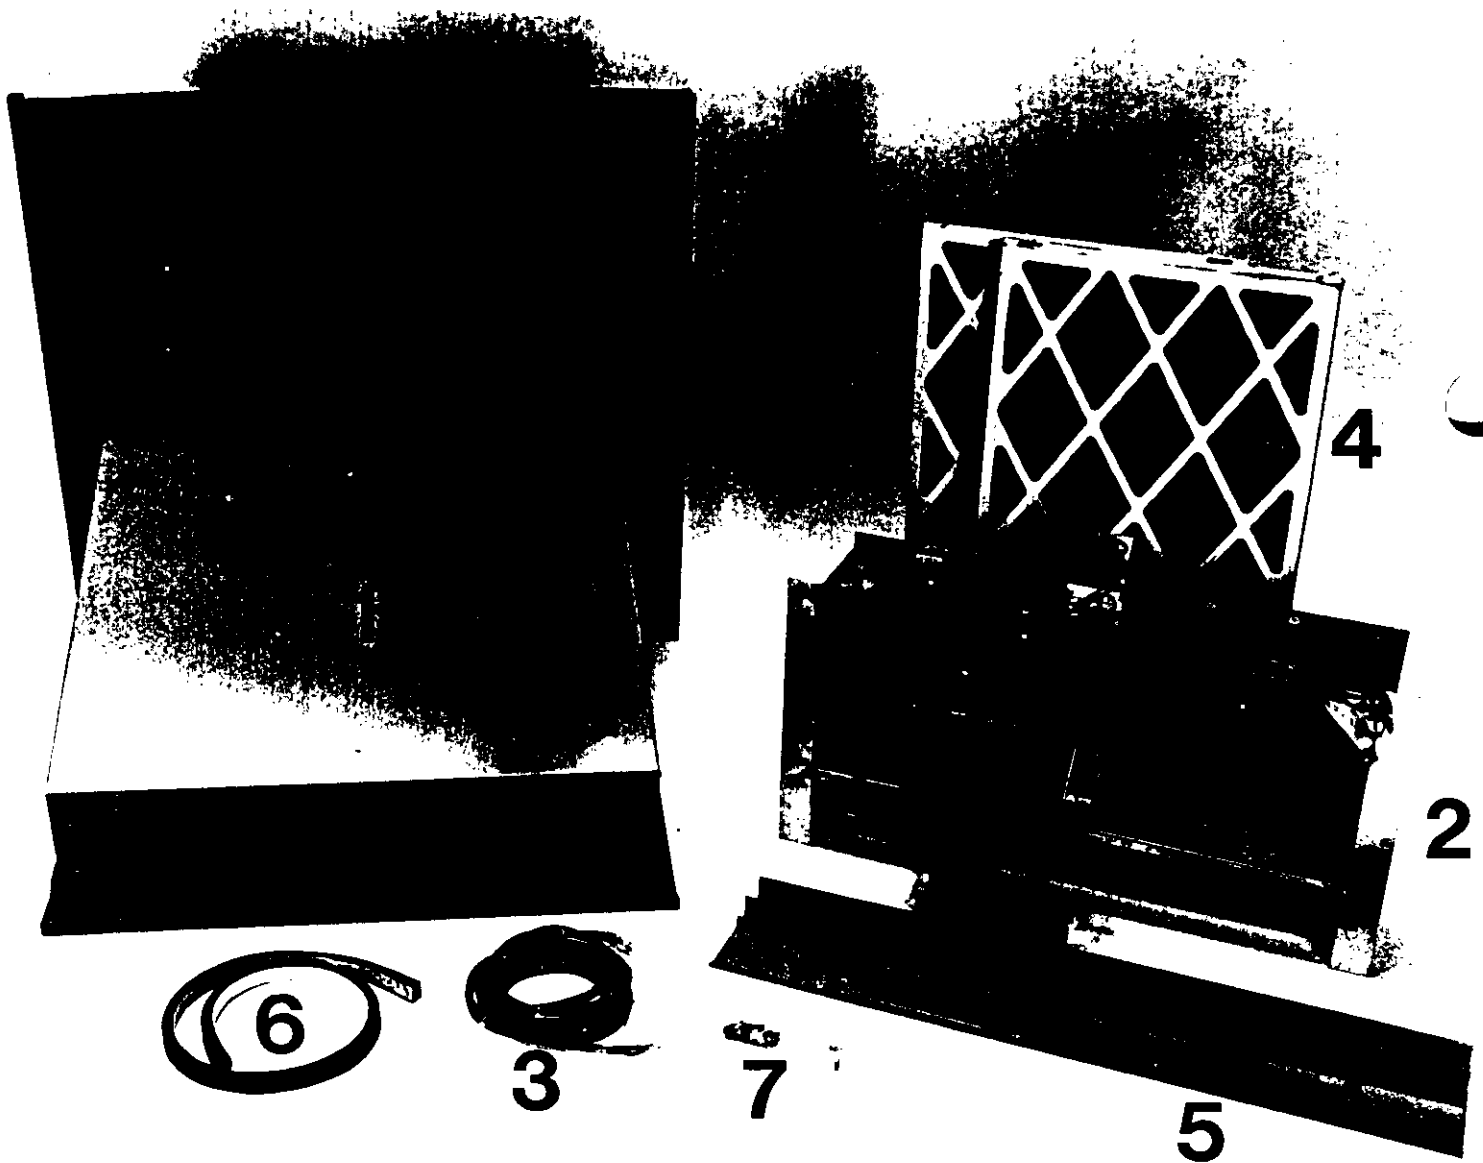

Figure 1.
1. Unpack the economizer assembly which includes: (1) intake hood subassembly, (2) return/outside air damper subassembly, (3) electrical harness, (4) filters, (5) top filter rack subassembly, (6) gasketing, (7) miscellaneous hardware and installation instructions. (See Figure 1)